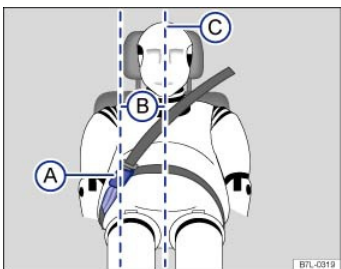

Fig. 35 Positioning of the safety belt extender.
Key to ⇒ *Fig. 35* :
- Never use a safety belt extender if the distance (B) between the front edge of the safety belt extender buckle (A) and the centerline of the person using the safety belt extender ⇒ *Fig. 35*ⓐ is less than 6 inches (15 cm).